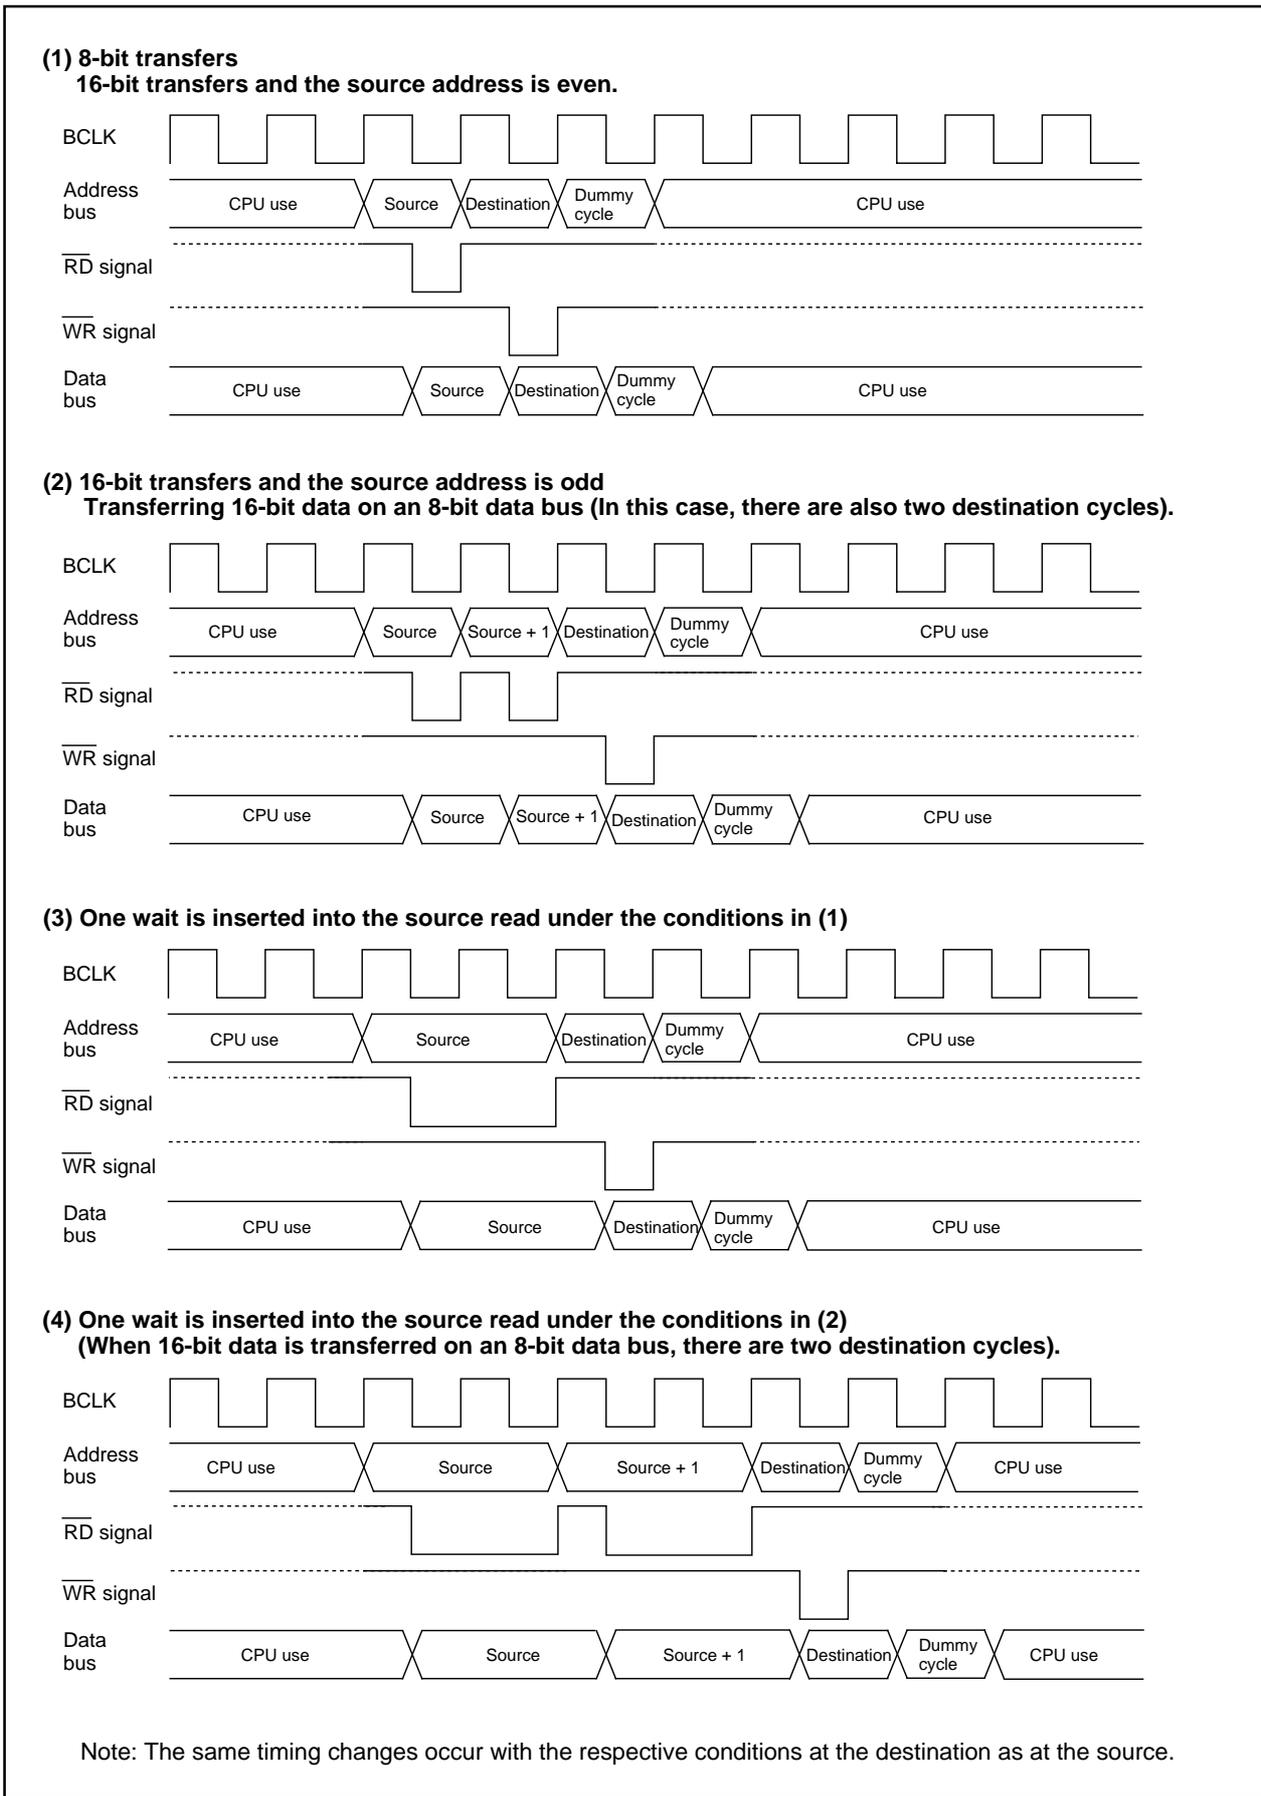

Figure 1.13.5. Example of the transfer cycles for a source read
Figure 1.13.5 shows the example of the transfer cycles for a source read. For convenience, the destination write cycle is shown as one cycle and the source read cycles for the different conditions are shown. In reality, the destination write cycle is subject to the same conditions as the source read cycle, with the transfer cycle changing accordingly. When calculating the transfer cycle, remember to apply the respective conditions to both the destination write cycle and the source read cycle. For example (2) in Figure 1.13.5, if data is being transferred in 16-bit units on an 8-bit bus, two bus cycles are required for both the source read cycle and the destination write cycle.